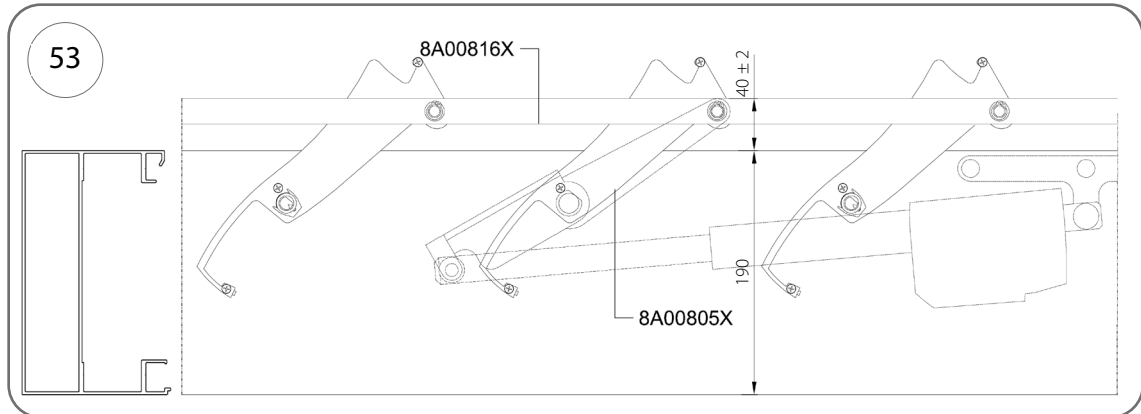

Fig. 53
2. Set the closed end position as shown in Fig. 53.